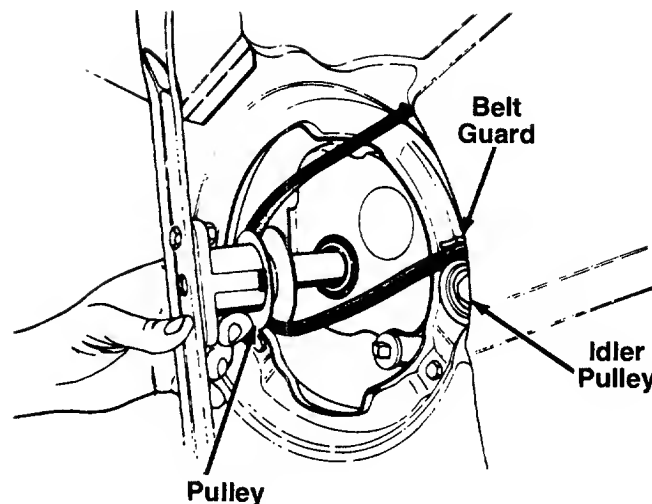

FIGURE 18.
7. Loosen (do not remove) the bolt which secures the idler pulley so you can remove the belt from between the idler pulley and the belt guard on the idler pulley bracket. See figure 18.